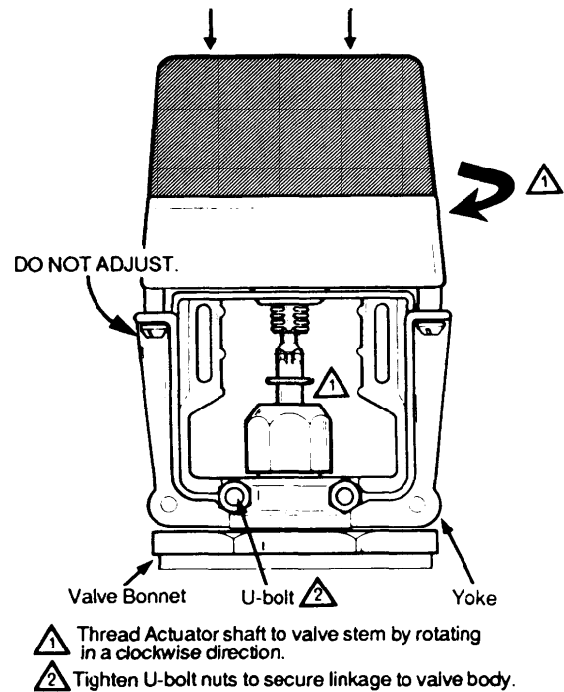

FIG. 4 -- ASSEMBLY OF ML6984A TO VALVE.
1. The drive shaft of the ML6984 has a threaded hole to link with the valve stem. Slide the yoke over the valve bonnet (Fig. 4)
3. Care should be exercised when using tools on the valve stem during tightening. (Fig. 4) **DO NOT** damage the threads or other parts of the stem.